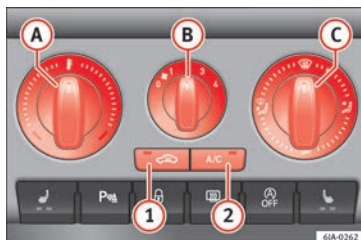

Fig. 170 Air conditioning: controls.
The air cooling system only works if **A/C** button **2** » **Fig. 170** » page 145 is pressed and under following conditions:
- Turn rotary control **A** » **Fig. 170** clockwise to increase the temperature.
- Turn rotary control **B** » **Fig. 170** to position 1 to 4 to switch the blower on.
- Turn rotary control **C** » **Fig. 170** to select the air vents » **page 143** you wish to activate.
- Press the button **A/C** **2** » **Fig. 170** and the lamp in the button will illuminate.
If the rotary switch **C** » Fig. 170 is in the thaw position, the recirculation flap will always be open (button light off).
- Press button **1** » Fig. 170, the switch's lamp will light up, indicating that air recirculation inside the vehicle has been activated.